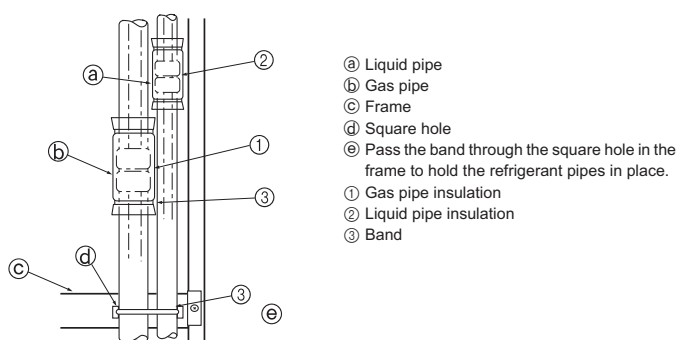

Fig. 4-5
Insulate flare joints (1) and (2) of the gas and refrigerant pipes completely. If any part of the joints are exposed, condensation can drip down. (Fig. 4-5)
- Fasten the gas pipe insulation (1) and the liquid pipe insulation (2) at both ends so that they will not slip and align with one another.
- After the insulation is installed, use a band (3) to fasten the refrigerant pipe to the frame (below the pipe joint section). This will prevent the refrigerant pipe from lifting up off of the frame.